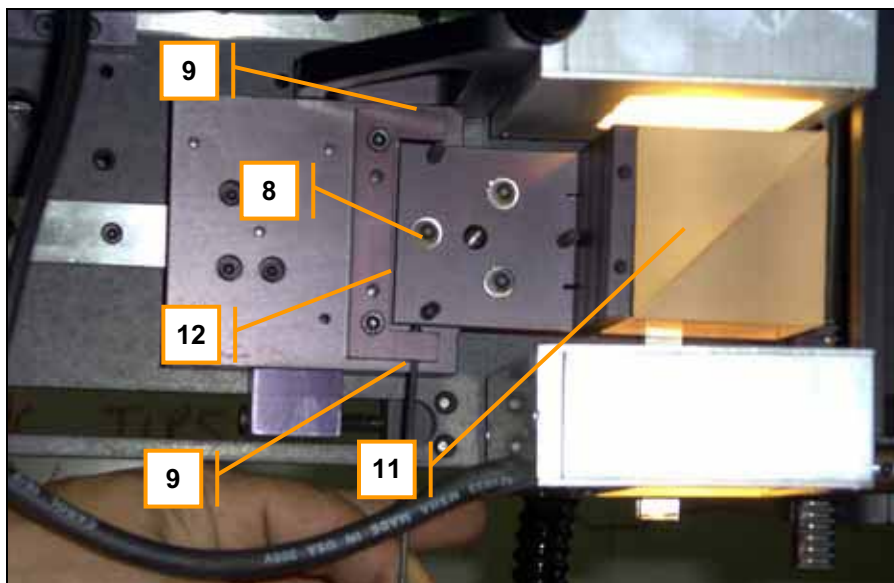

Figure 42: Prism Left/Right Image Adjustment
7. If the tip and hole in the plate appear concentric, then no adjustment of the prism is required. If the tip and hole appear misaligned, adjust the prism according to Figures 42 and 43.